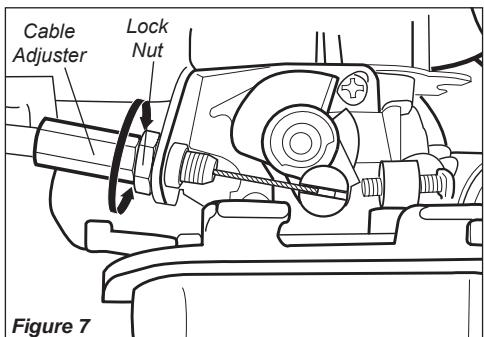

Figure 7
3. Turn the cable adjuster in or out as required to obtain proper free play 3/16-1/4 inch (4-6 mm). See Figure 7.